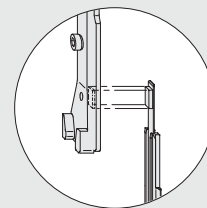

Figure 1
- > E** Install eccentric rivet (38) and locking cam (39) on S3 as shown (see page 2).
- > A** Insert slider (page 2: 36) with operating rod S4 and corner drive VSU/BSO (37) vertically on the BSO.
- B** Insert locking bolt TBT (21), stay LM 4200 (20) and operating rod S3 horizontally on the VSO.
- > C** Insert locking bolt TBT (21), stay LM 4200 (20) and operating rod S3, stay striker MV (42), striker plate (40) and >operating rod (length 234 mm) horizontally on the VSO.
- > D** Couple locking bolt TBT (21) with corner drive VSU/BSO (37). Make sure positioning of coupling piece for corner drive VSU/BSO (37) is correct.
- E** Attach stay hinge (10/16) to stay LM 4200 (20) using countersunk screw M5 x 7 (11/17) (torque 2.5 ± 0.25 Nm).
- > F** Position stay hinge (10/16) according to specifications on page 4 and fasten stay LM 4200 (20) with punching screws.
- > G** Insert slider (36) with operating rod S5 and corner drive VSU/BSO (37) vertically on the VSU.
- H** Insert tilt lock TBT (25), operating rod S1, coupling bracket LM (30/34), operating rod S2 and corner drive VSO (23.1/23.2) vertically on the VSO.
- > I** Couple tilt lock TBT (25) with corner drive VSU/BSO (37). Make sure positioning of coupling piece for corner drive VSU/BSO (37) is correct (Figure 1).
- J** Couple corner drive VSO (23.1/23.2) with operating rod S3 ">operating rod 234" and secure with clamping piece EUL (22).
- K** Insert run-up block (28) horizontally on the VSU (not applicable for MV on the VSU).
- L** Attach handle LM lockable/TBT (1) with cheese head screws M5 x 12 (31) (torque 2.5 ± 0.25 Nm). Make sure the handle catch closes into the coupling bracket (30).
- L** Attach mishandling device LM on rebate (33) with cheese head screws M5 x 12 (312) to the handle LM (1) (torque 2.5 ± 0.25 Nm). Make sure the handle catch closes into the coupling bracket (34).
- M** Press bottom hinge pin (4) into corner hinge (5) DIN right or DIN left.
- N** Insert clamping piece E (6) vertically on the BSU and attach corner hinge (5) using countersunk screws M5 x 8.5 (3) (torque 2.5 ± 0.25 Nm).
- O** Insert corner hinge right/left (13) in the sash groove and fasten with the pre-installed countersunk screws M5 x 8.5 (torque 2.5 ± 0.25 Nm).